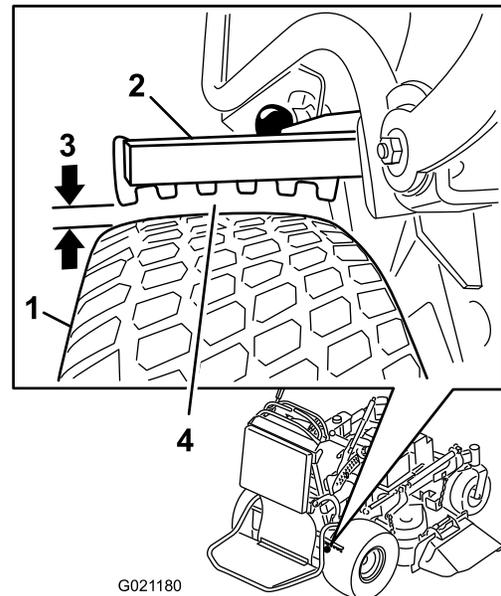

Figure 62
6. Using the side with the smallest clearance, ensure that the distance is between 3 and 6 mm (1/8 and 1/4 inches) as shown in Figure 62; refer to Adjusting the Brakes \(page 46\) when adjustment is needed.
5. Adjust the yoke (Figure 62).